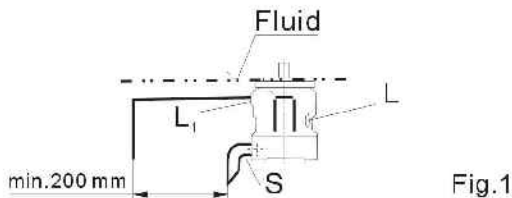

Fig.1
a) If the minimum fluid level is equal to or above the pump mounting face close port "L" plugged, leave ports "L" and "S" open; L1 piped and recommendation S piped (see Fig.1).